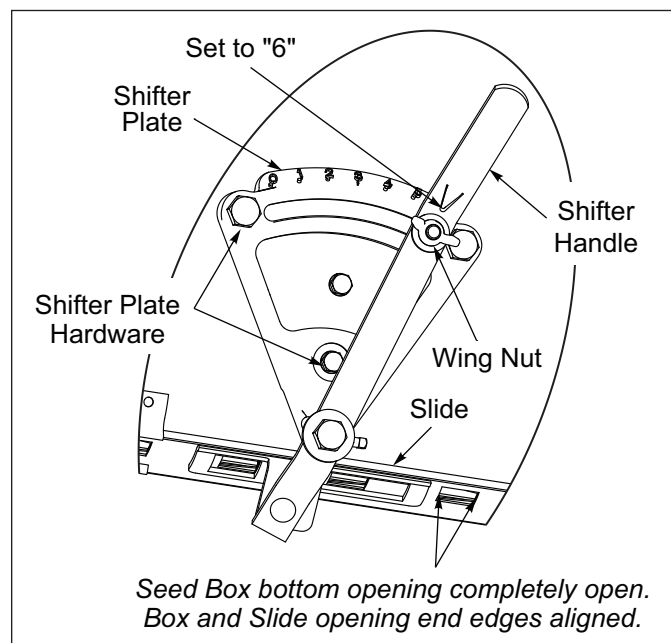

Figure 4-7: Agitator Box Completely Open.
- Shift the Shifter Handle to “6”. The Seed Box bottom opening should be completely open. **See Figure 4-7.**